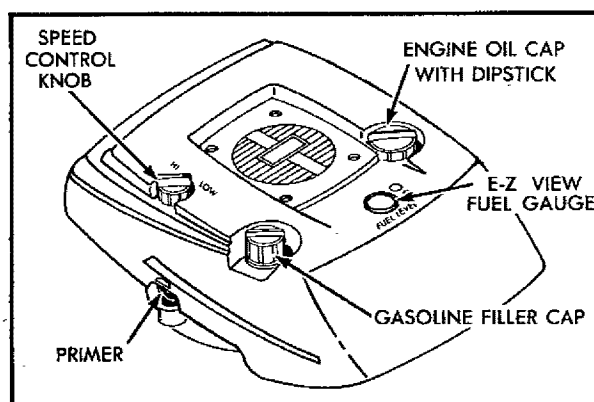

FIG. 12
Your engine has a visual fuel gauge located on top front of engine to indicate fuel level in tank (See Fig. 12).
1. Remove engine oil cap with dipstick and fill to the "FULL" line on the dipstick, using about 1 pint or 0.5 liters of Sears 10W30 oil or equivalent. SAE 30 oil can also be used (See Fig. 12). DO NOT use SAE 10W40.
4. Fill the gasoline tank with about two (2) quarts of fresh, clean unleaded gasoline. Regular leaded gasoline can also be used (See Fig. 12). See "E-Z VIEW FUEL GAUGE" section.
The engine speed is controlled by a control knob located on top right side of engine. It has "HIGH" and "LOW" positions. "HIGH" position is for starting engine, heavy cutting and better grass bagging. "LOW" position is for light cutting, trimming and fuel economy (See Fig. 12).
2. Move engine control lever to "HI" position (See Fig. 12).
3. When starting a cold engine, push the primer five (5) times before attempting to start the engine. Use sharp pushes and wait several seconds between each push (See Fig. 12).